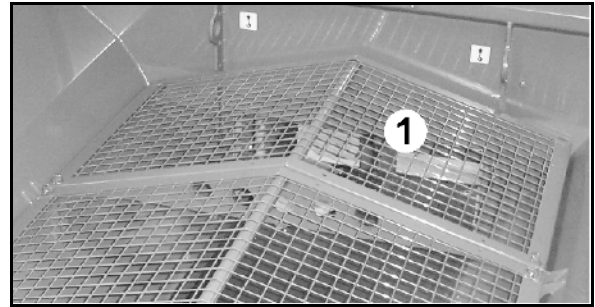

Fig. 57
- Granular fertiliser : Insert the sieve screen (Fig. 57/1) and secure using a lynch pin!